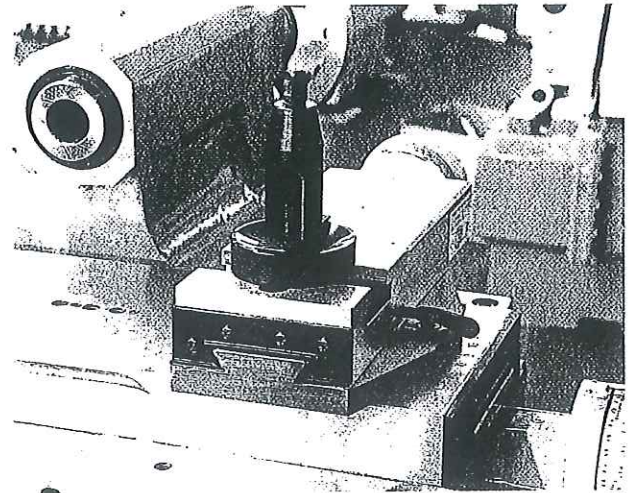

Figure 6
2. Loose Compound, cross feed or saddle. (Figure 6)